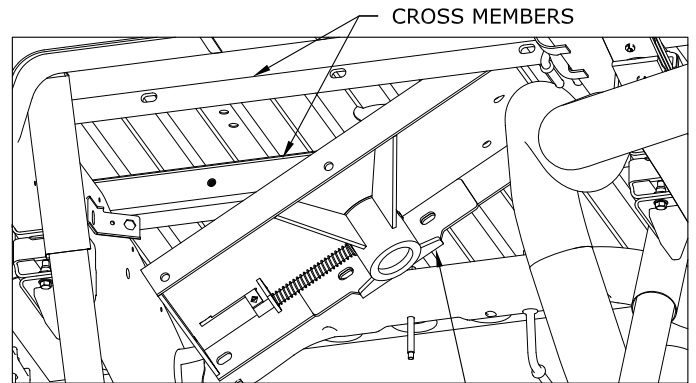
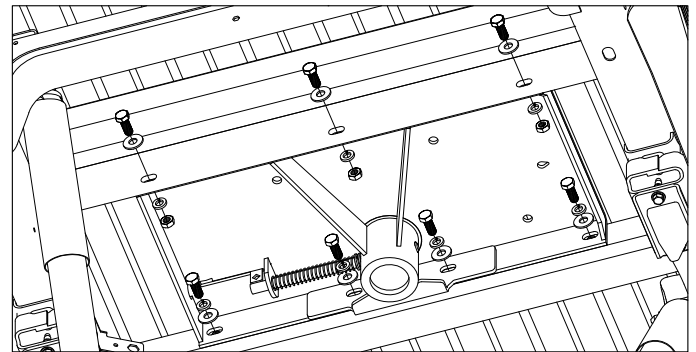

FIGURE B5: View under bed looking at area above axle.
FIGURE B6: View under bed of hardware assembly.
**2. Install Center Section.** Install the center section with the latch pin on the driver's side. Raise the center section over the differential while sliding the center section over the exhaust and guiding the raised 4" circle on top of the center into the 4" hole in the truck bed floor, See figure B5. Move rear cross member forward against the center section. Place a 1/2" flat washer on a 1/2" X 1 1/2" hex cap screw. Insert the cap screw through the rear cross member and center section, securing it with a 1/2" lock washer, and a 1/2" finish nut. Thread a 1/2" X 1 1/2" hex cap screw with a 1/2" lock washer and a 1/2" flat washer into the front cross member from the inside of the center section, See figure B6 (Do not tighten hardware at this time.)